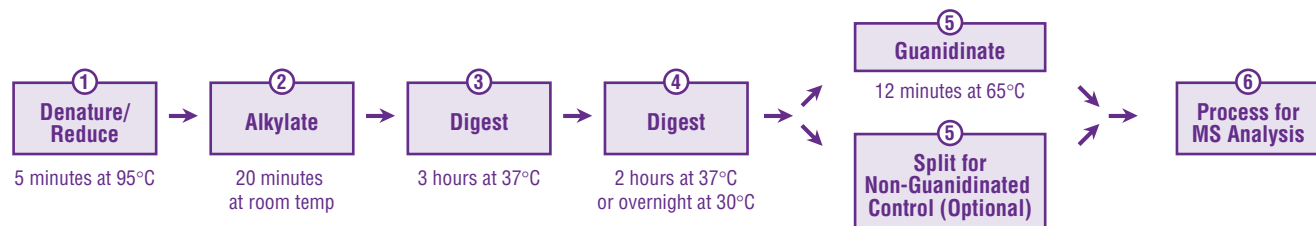

Figure 27. In-Solution Tryptic Digestion and Guanidination Kit protocol.
Trypsin specifically cleaves peptide bonds at the carboxyl side of arginine and lysine residues, generating a peptide map unique for each protein. Analysis of tryptic peptides by mass spectrometry (MS) provides a powerful tool for identifying proteins or analyzing post-translational modifications. Reliable mass spectral analysis requires accurate and complete digestion of the target proteins as well as modification of peptides to optimize ionization and detection. The In-Solution Tryptic Digestion and Guanidination Kit from Pierce contains optimized procedures and reagents for reduction, alkylation, digestion and guanidination to provide reliable MS analysis of approximately 90 protein samples containing 0.025-10 µg of protein (Figure 27).